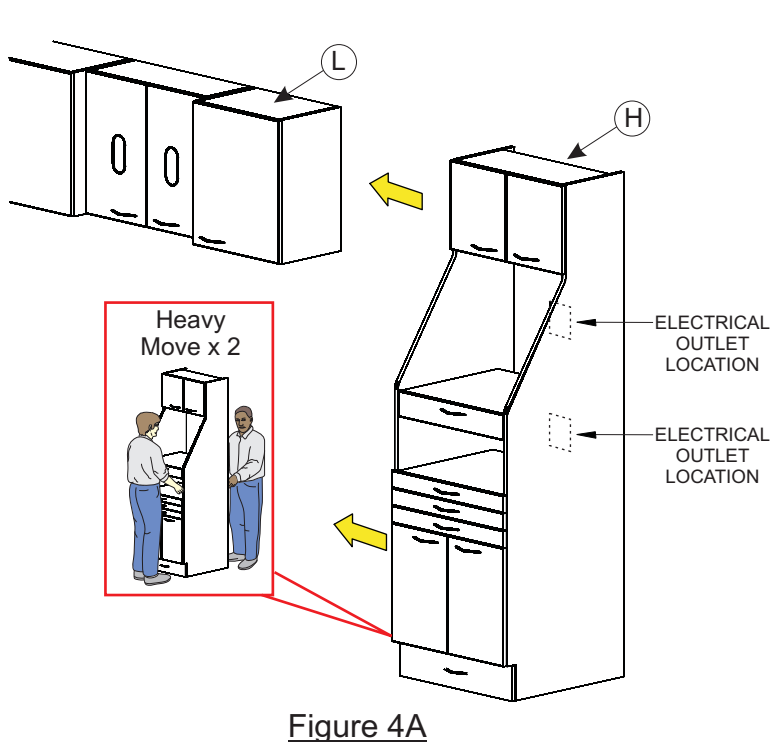

Figure 4A
Move Sterilization Cabinet (H) into position and make electrical connections at the outlets in the back panel. Move the cabinet flush against the wall and against the last Wall Cabinet (L) (see Figure 4A) Make sure the cabinet is flush and level (shim if necessary).